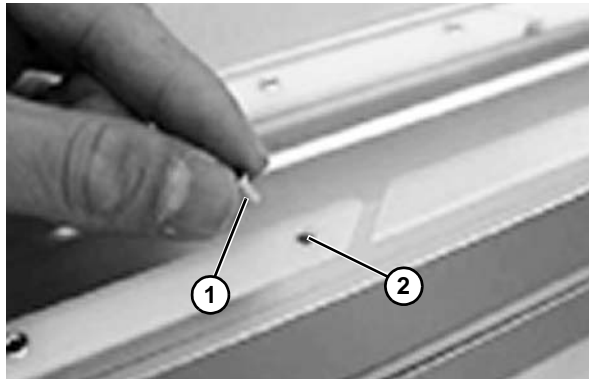

Figure 43
1. Insert the aluminum rivets (**Figure 43, item 1**) into the holes (**Figure 43, item 2**).